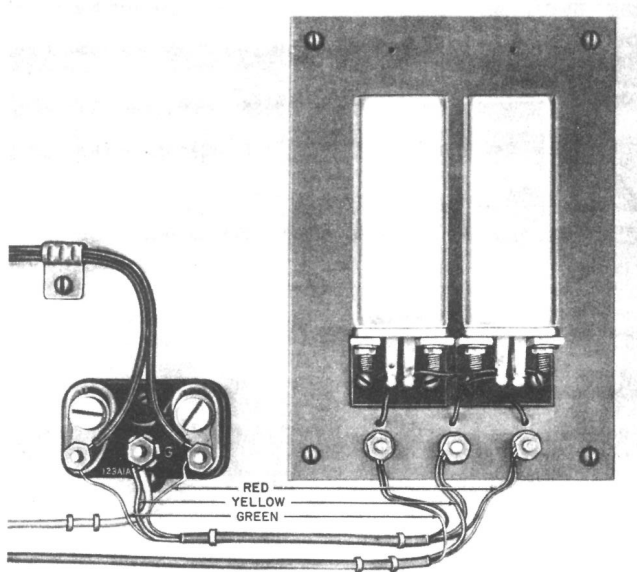

FIGURE 9. 123A1A Protector with 40BA Capacitor Installed
- 6.01 The 40BA capacitor should be installed near and connected to the protector with as short a piece of inside wire as possible (see Figure 9).